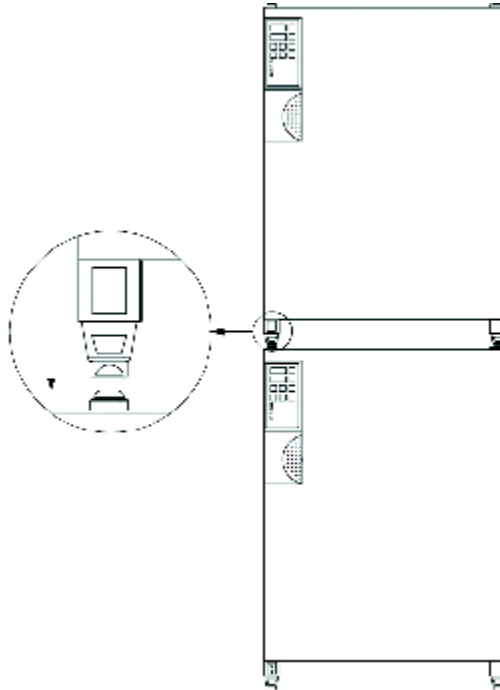

Fig. 9: Stacking Picture of LCI 200A
- The stacking of incubators (refer to Fig. 9).
1 Stacking of Incubators (refer to Figure 9):-